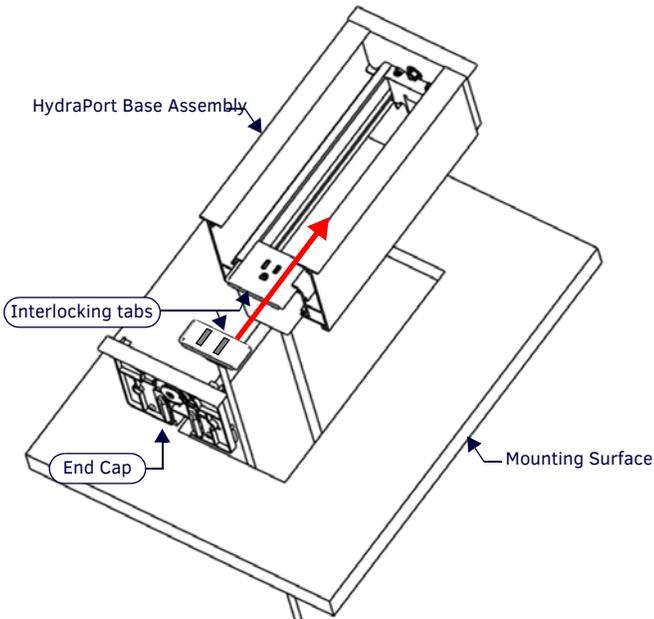

FIG. 6 INSTALLING THE HPX-N102-USB-PC MODULE
1. Orient the module relative to the HydraPort base assembly so that the Module's faceplate is facing up, towards the mounting surface (FIG. 6).